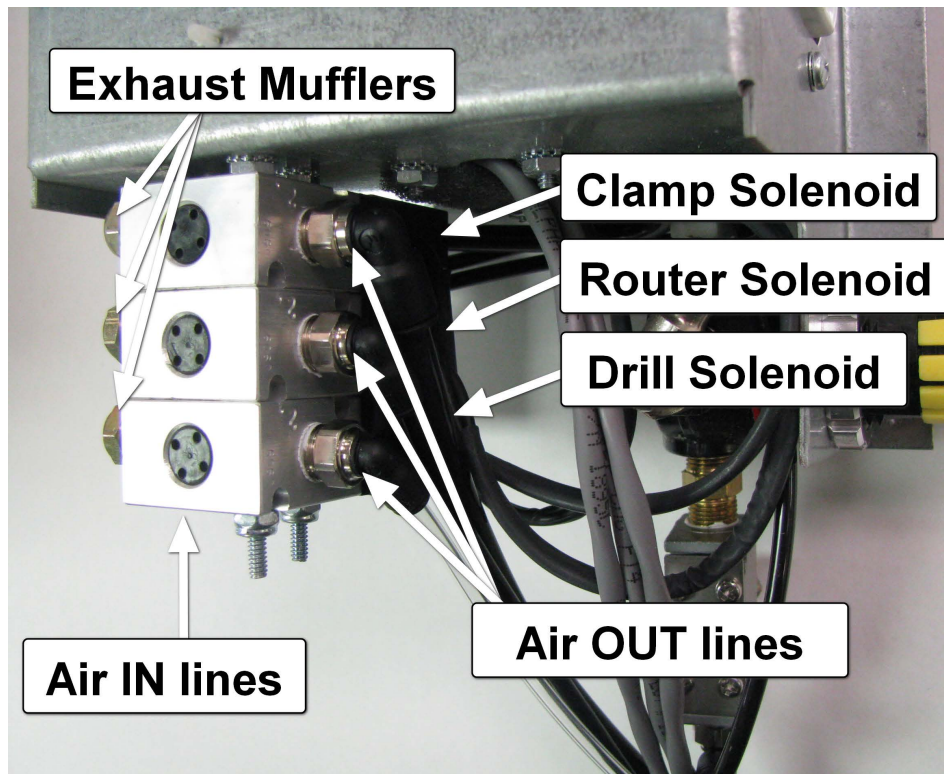

Fig 6
1. Open the rear door. The Exhaust muffler is the brass fitting located next to the air inlet on the clamp solenoid. **See Fig 6.**